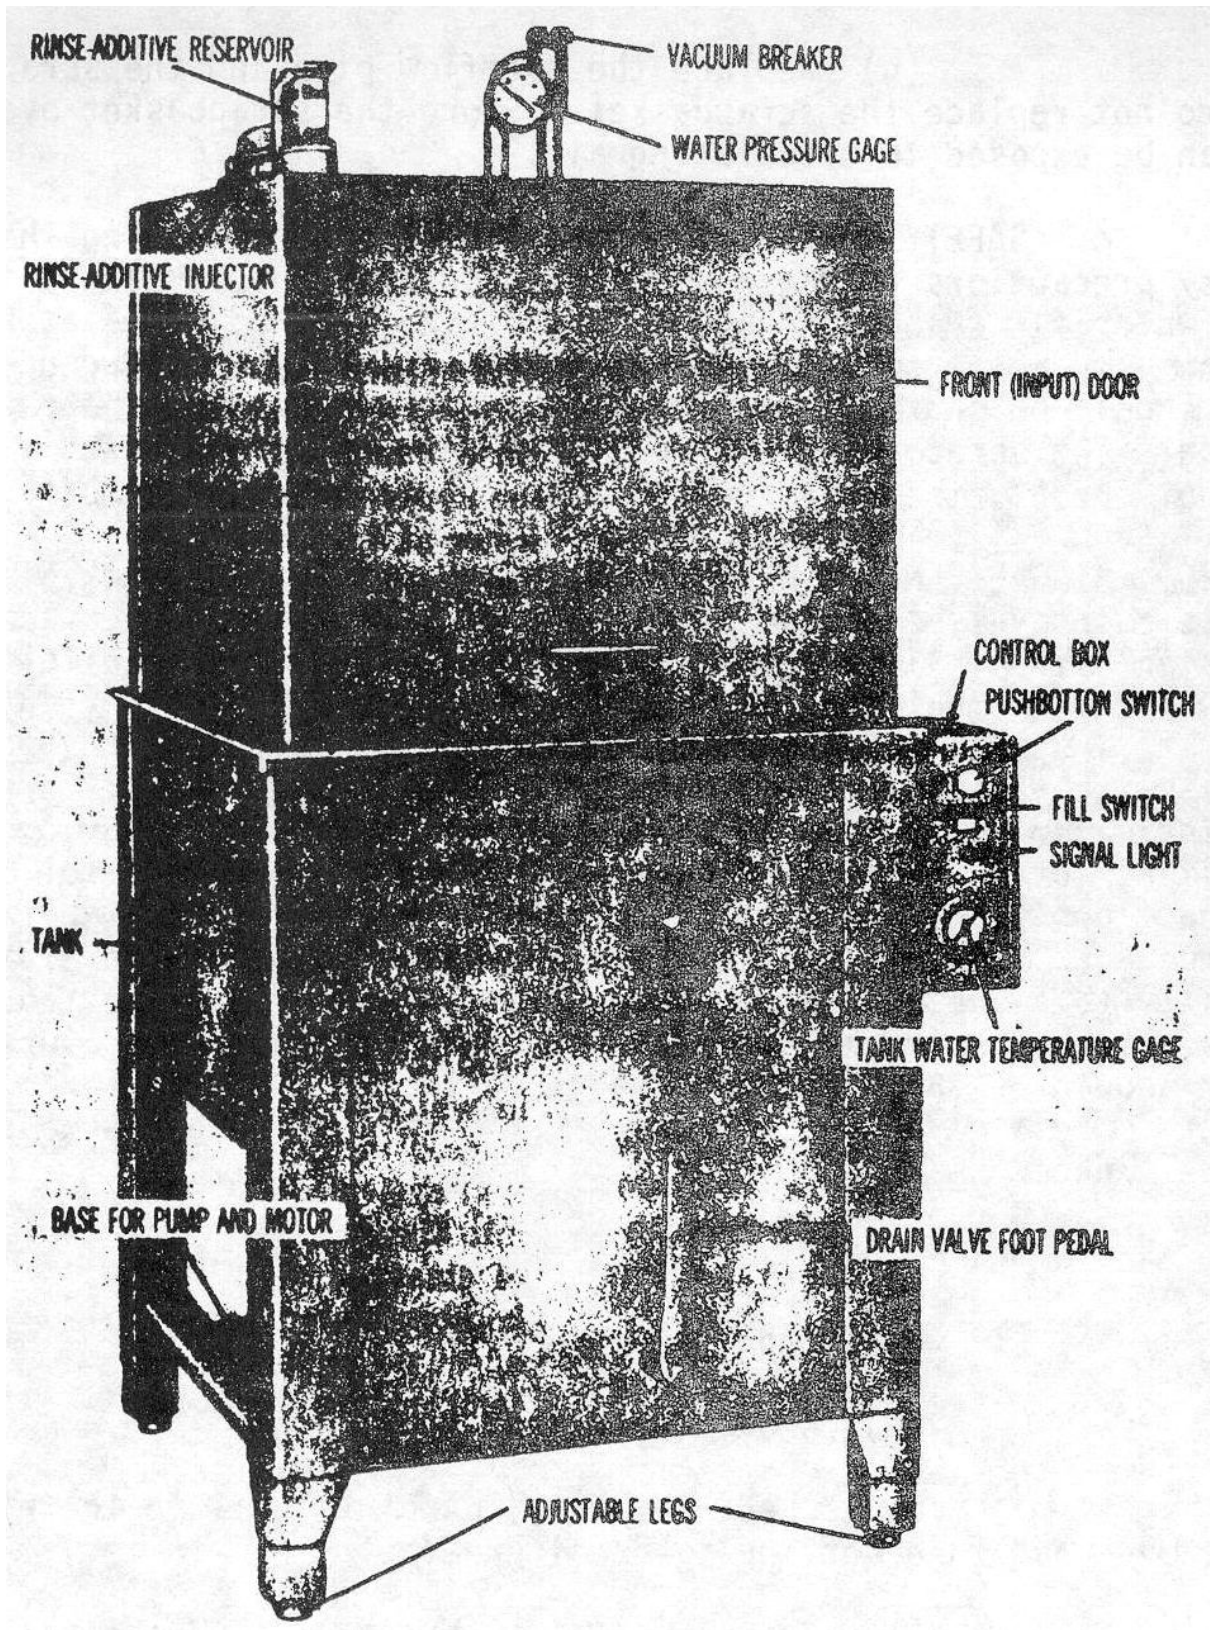
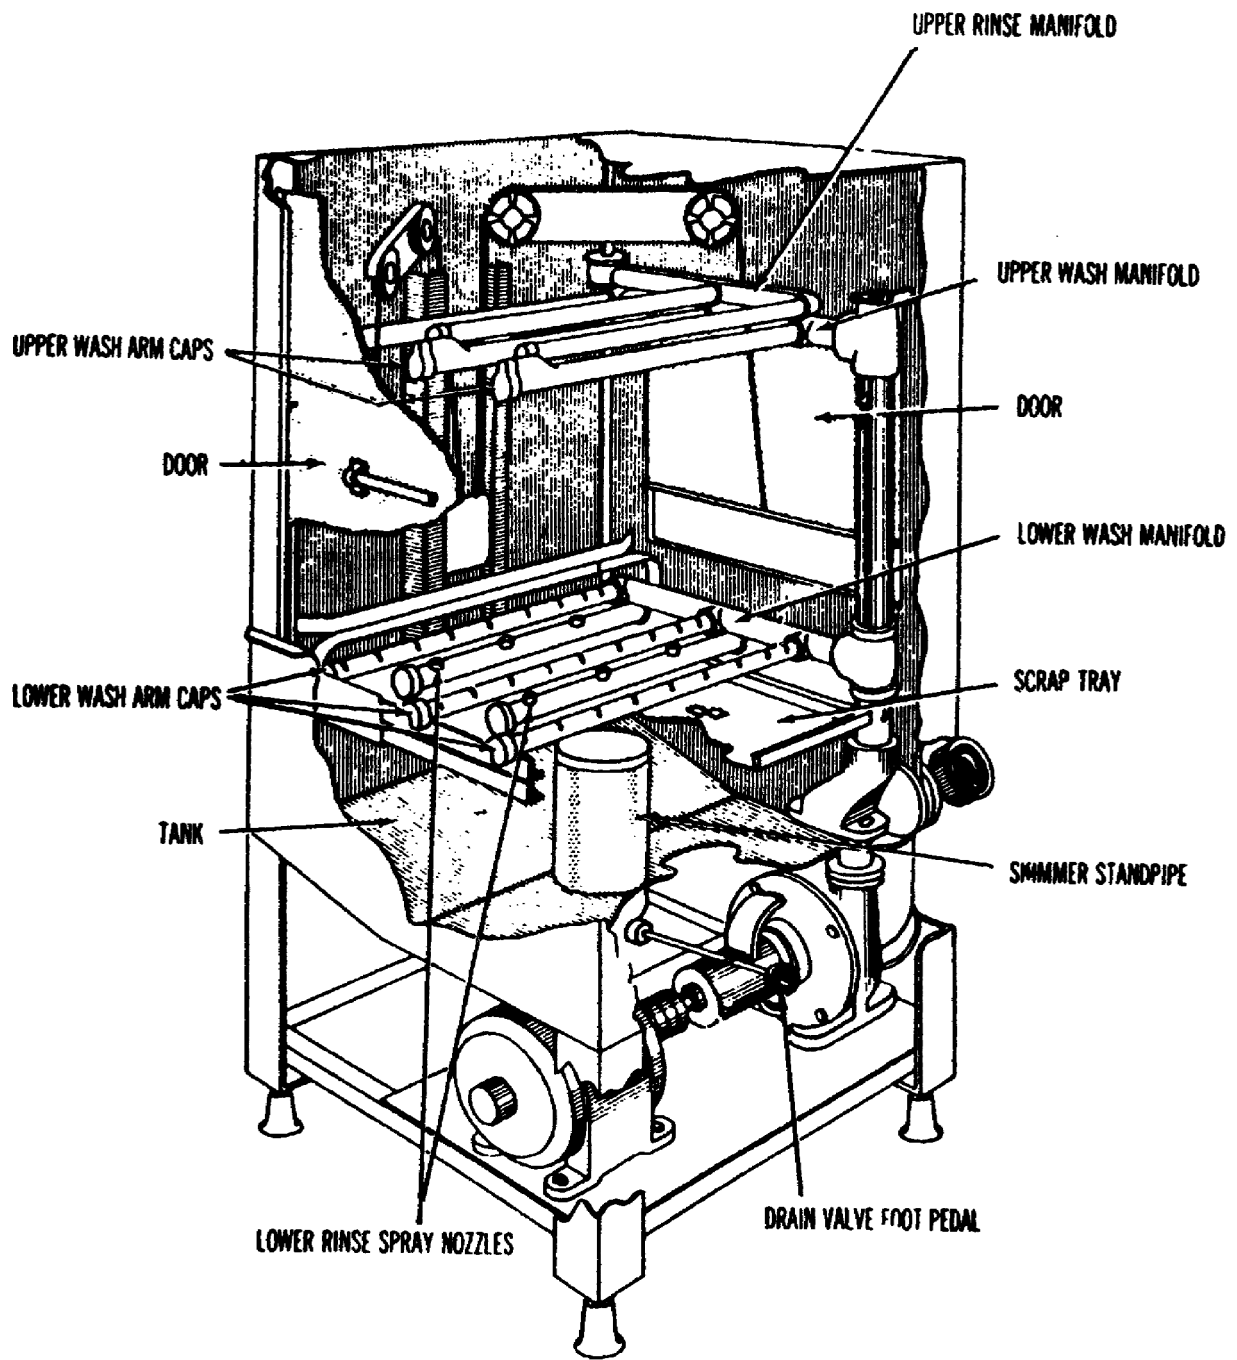

Figure 25. Single-tank dishwashing machine.
Figure 26. Cutaway diagram of a single-tank dishwashing machine
25. SINGLE-TANK DISHWASHING MACHINE. The single-tank dishwasher (fig. 25) is a spray-type machine whose body and tank are made of corrosion-resistant steel. There are two sets of spray arms or manifolds in its dishwashing chamber, one for washing and one for rinsing (fig. 26). Wash arms are installed above and below the dish level, and they wash the dishes with water containing detergent. The usual temperature for dishwashing water is 150° to 160° F, but newer dishwashing equipment sometimes specifies lower water temperatures. The operator should follow the instructions in the appropriate technical manual or the manufacturer's instructions. The rinse arms above and below the dish level are connected directly to a booster water heater or a hot water storage tank that provides a clear, hot water for rinsing. The minimum temperature of the rinse water should be 180° F but may range up to 210° F. A removable scrap tray is set immediately below the lower spray arms to keep any food scraps out of the tank.